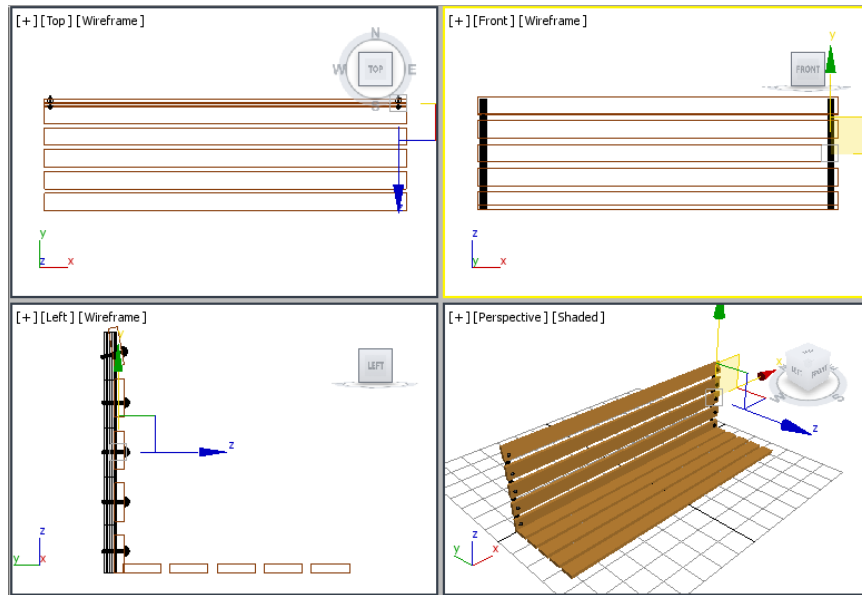

Figure 2-84 The right side rivets group displayed in viewports
2. In the **Clone Options** dialog box, make sure the **Copy** radio button is selected. In the **Name** text box, enter **right side rivets** to modify the name of the group and choose **OK**; *right side rivets* group is displayed, as shown in Figure 2-84.